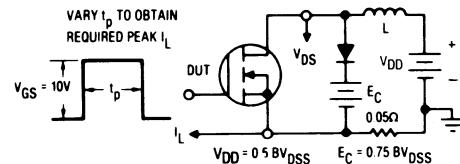

Fig. 14 – Clamped Inductive Test Circuit
- 3 See Figures 14 and 15. $L = 100\mu H$
① $T_J = 25^\circ\text{C}$ to 150°C .
② Pulse Test: Pulse width $\leq 300\text{ }\mu\text{s}$, Duty Cycle $\leq 2\%$.
③ (See Fig. 14 and 15) $L = 100\text{ }\mu\text{H}$